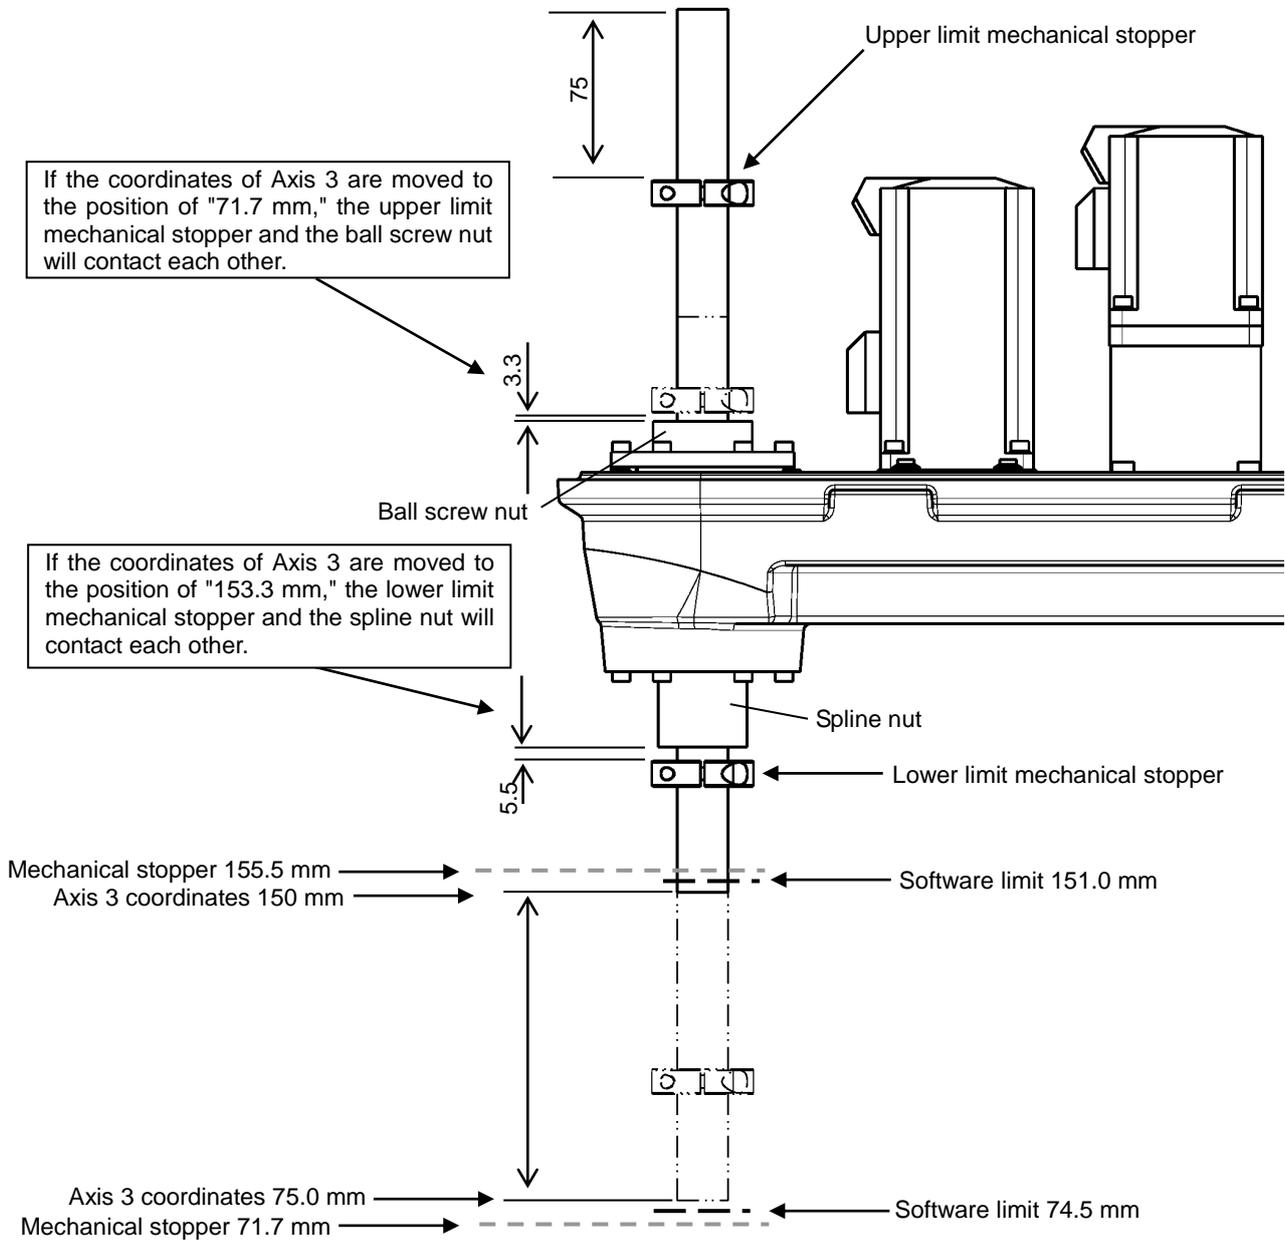

Fig. 6.10 Changing the Operating Range of Axis 3 (KHL-500, KHL-600 and KHL-700)
- 3) When the mechanical stoppers are changed, be sure to also change the software limits. Regarding how to change software limits, see Para. 5.2.4 and Fig. 6.10. After changing the software limit, while pressing the axis 3 brake release switch, move Axis 3 manually, and make sure that the software limit is correctly set.
Fig. 6.10 shows the settings of the operating range when the upper limit mechanical stopper was moved 75 mm downward.